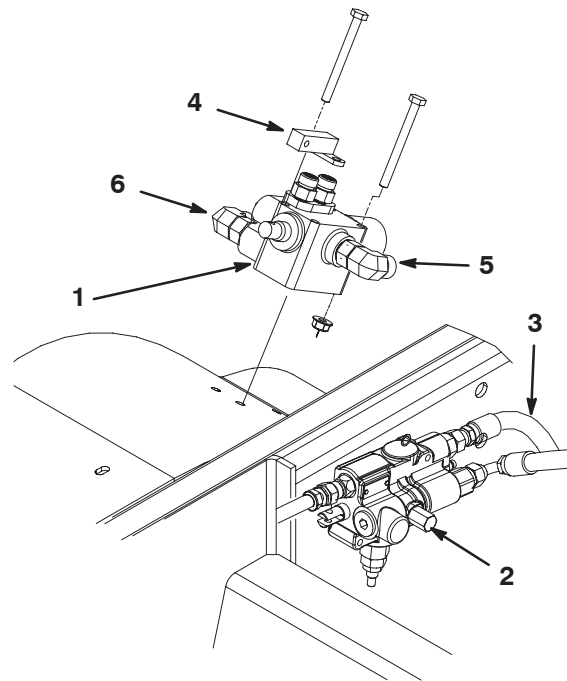

Figure 4
4. Mount the control valve and the pivot lever to the right fender with (3) 1/4-20 x 2-3/4" lg. capscrews and 1/4-20 flange locknuts as shown in figure 4.
5. Place a drain pan under the lift valve (Fig. 4).
6. Disconnect the steering hose (Fig. 4), from the "P" port (upper rear port) of the lift valve (hose comes from the steering valve).
7. Connect the steering hose (from the lift valve “P” port) to the 90° fitting on the operator side of the control valve (Fig. 4).
8. Connect the hydraulic hose (included in the kit) to the “P” port of the lift valve and to the 90° fitting on the outer side of the control valve (Fig. 4).